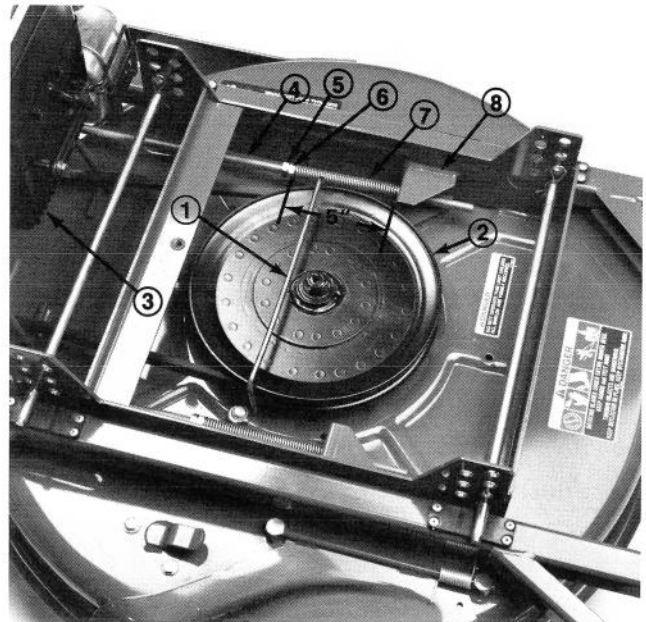

Figure 4
2. Remove (2) locknuts securing belt guide (over pulley) to mower housing (Fig. 4). Remove belt guide.
3. Route belt around deck drive pulley and engine clutch pulley (Fig. 4).
4. Thread (2) jam nuts onto each adjusting shaft (approximately 7 inches) (Fig. 4).
5. Slide a washer, spring and bushing onto each adjusting shaft. Bushing to be positioned so flange end is against spring (Fig. 4).
hole in carrier frame mounting tab. Small end of bushing to fit into hole in deck bracket (Fig. 4).
7. To tension belt, tighten front jam nut on each adjusting shaft until springs are compressed to a length of 5", measured between washer and bushing (Fig. 4). Secure rear jam nuts.
Note: Belt guide must be installed with formed loops to rear so guide is close to pulley (Fig. 4).